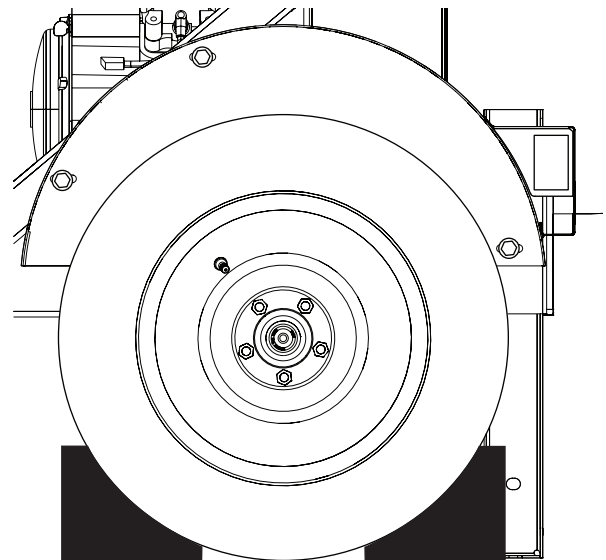

Figure 4-4. Wheel Chocks
- Block the wheels to prevent the machine from moving. See Figure 4-4.